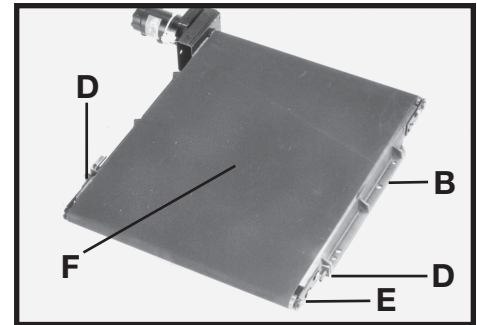
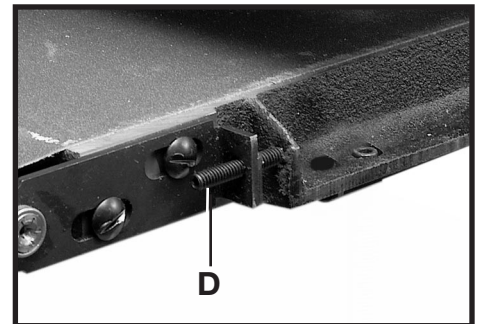
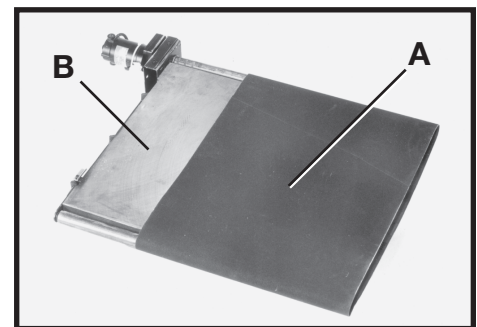

Fig. 33A
Fig. 33B
Fig. 34
4. Loosen the two socket head set screws (D) Fig. 33A and Fig. 33B equally at each side of the table until tension is relieved on roller (E). **NOTE:** Count the number of turns as you loosen the screws.
5. Slide the feed belt (A) Fig. 34, off table (B). Place the new feed belt on the table and re-apply slight tension to the feed belt roller (E) Fig. 33A, by turning two screws (D). Tighten both screws an equal amount until at least one side of the belt starts to get tight. **NOTE:** The number of turns to tighten should be less than the number loosened in **step 4**.
6. Attach the table (F) Fig. 33A, to the support plate and adjust the tension and tracking on the feed belt. Refer to section **"CHECKING AND ADJUSTING TRACKING AND TENSION ON THE FEED BELT"** in this manual.